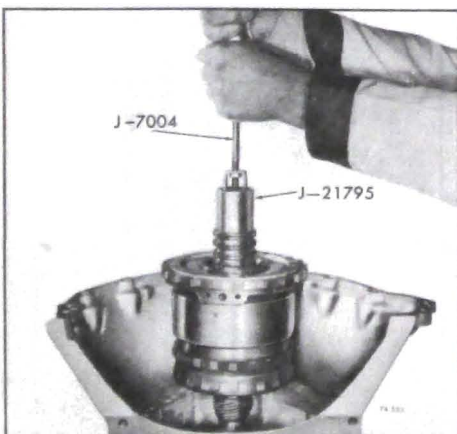

Figure 76-553
15. Remove entire gear unit assembly by lifting with J-21795 and J-7004 Slide Hammer. See Figure 76-553.